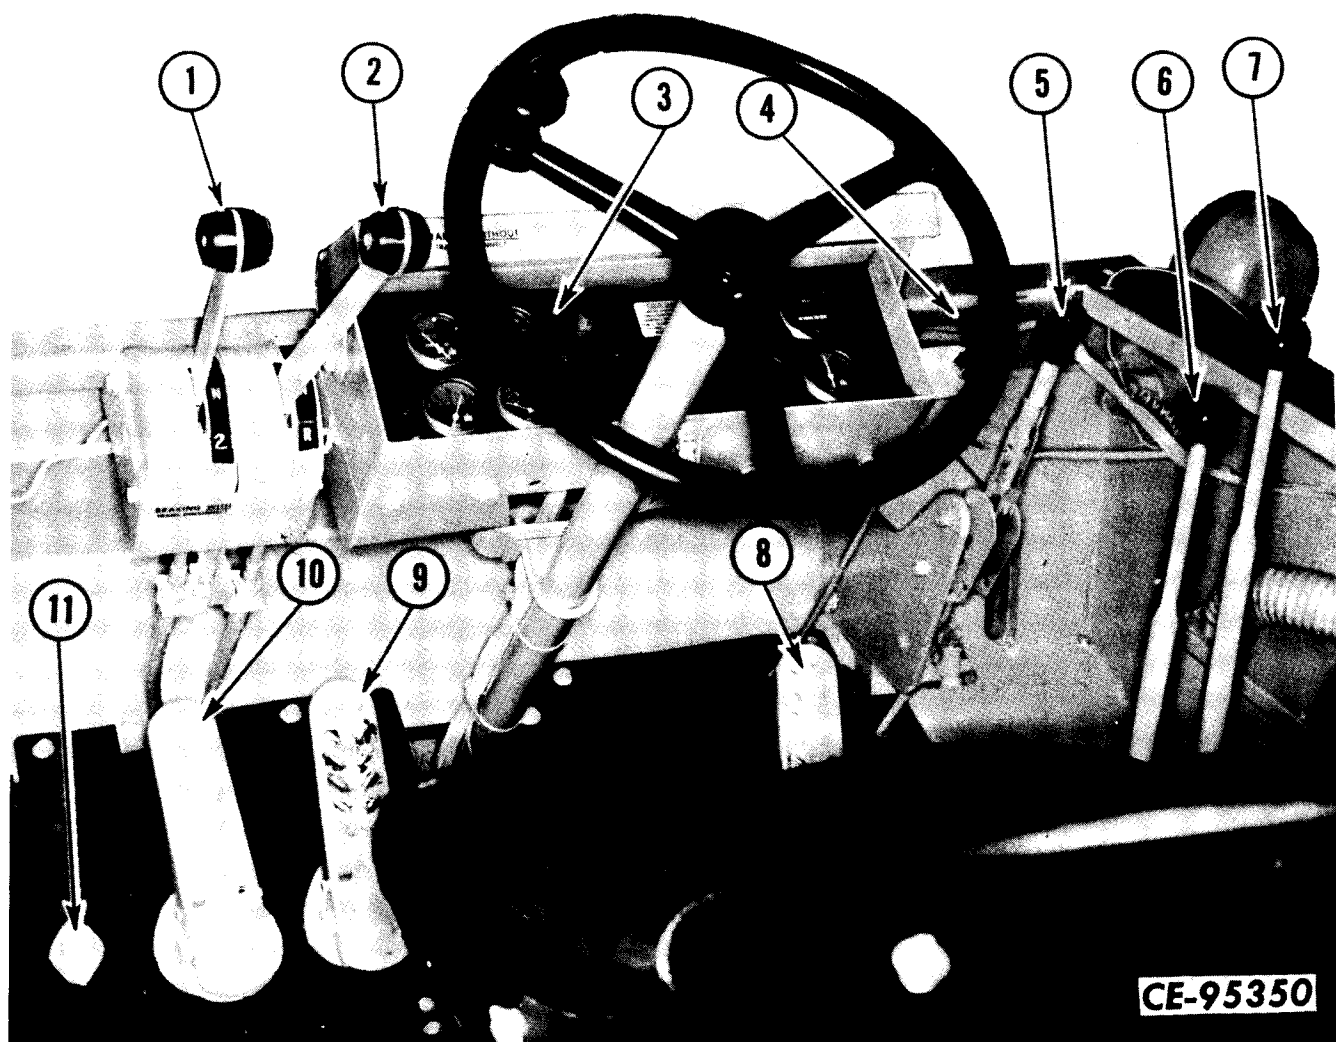

Figure 2-2a Operator's compartment
All manual controls necessary for loader operation are in the operator's compartment (Figure 2-2a). The gauges and switches are grouped together on the instrument panel (Figure 2-3a) in front of the operator.
Both brake treadles (9 and 10, Figure 2-2a) are similar in operation. The left treadle, in addition to applying the wheel brakes, also affects transmission operation by operating a transmission clutch cut-off valve. This shuts off transmission clutch pressure so no power can be transmitted through the drive line.
The accelerator pedal (8, Figure 2-2a) is to the far right on the deck of the operator's compartment.
The air operated horns are controlled by a button (11, Figure 2-2a) located on the left side of the floorboard in the operator's compartment. When pushed, it opens the horn valve allowing air to flow to the horns. The air then causes the horn diaphragms to vibrate.
The two levers mounted to the left of the steering column control transmission shifts. Speed range shifts are made with the left hand lever (1 Figure 2-2a) on the shift quadrant. The right hand lever (4) controls shifting of the transmission direction clutch assemblies. Shift both levers before accelerating the engine.
The boom control lever (7, Figure 2-2A) is the lever to the far right of the operator. It is linked to the main hydraulic control valve assembly. Lever movement causes a plunger to move in the control valve. The plunger has three detents that can be distinctly felt.